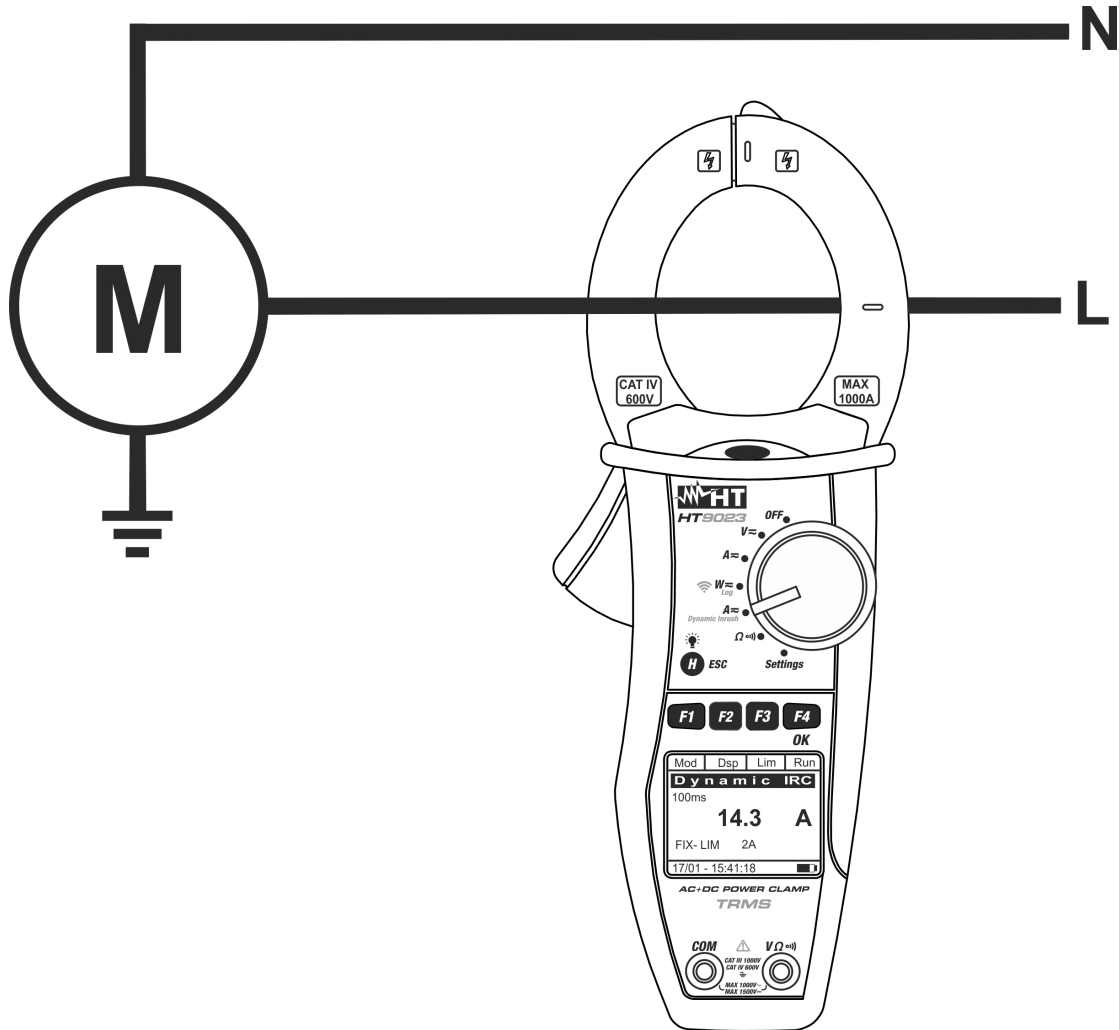

Fig. 11: Dynamic Inrush current measurement
- Connect the cable to the middle of the clamp jaws, in order to get accurate measurements (see Fig. 11). Use the marks as a reference (see Fig. 2)